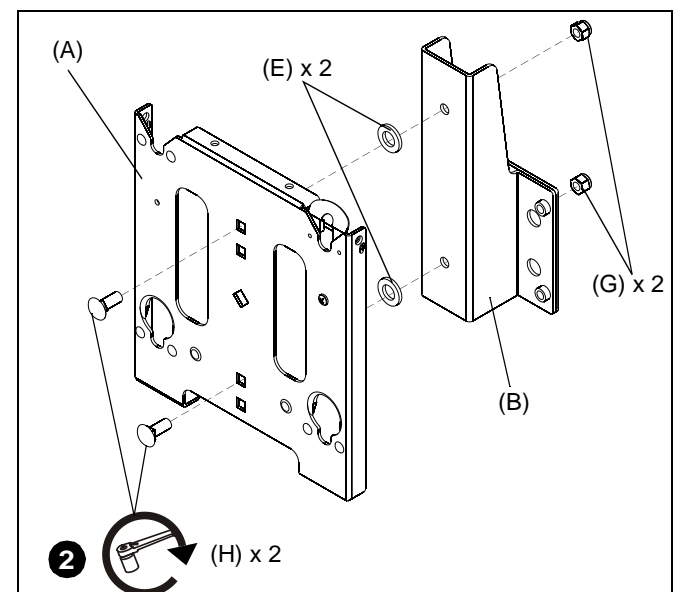

Figure 3
2. Attach second faceplate (A) to bracket (B) using two 3/8-16 x 1" roundhead carriage bolts (H), two spacers (E) and two 3/8-16 Nylock lock nuts (G). (See Figure 3)